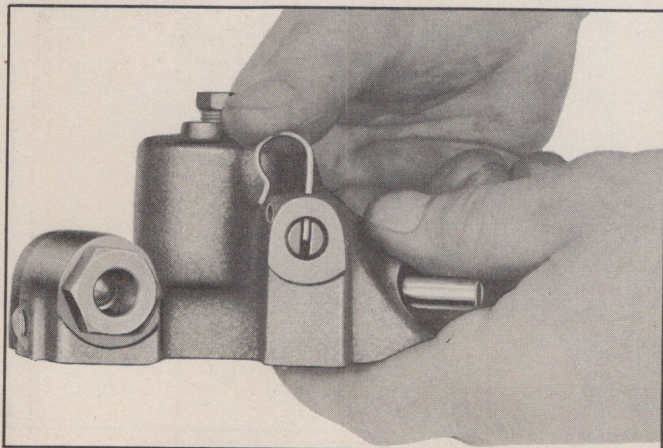

Fig. 280—Installing 4 to 3 Spring Retainer
2. Install the 4 to 3 valve into bore of body. Align slot with hole for spring retainer and install retainer (Fig. 280). Check the valve for free movement after installing the retainer.